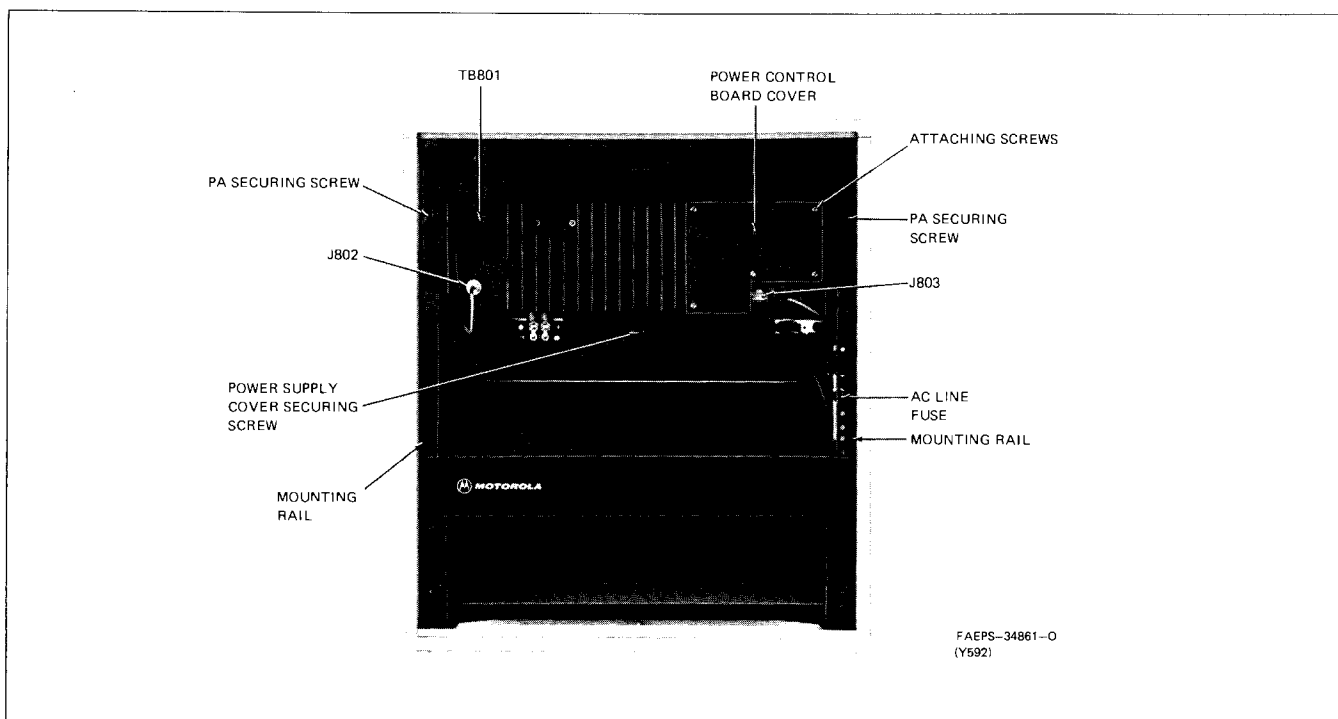

Figure 1. PA and Power Supply Detail of Intermittent Duty Station
5.1.2 The ac line fuse is located on the front side of the junction box at the right-hand side of the cabinet (refer to Figures 1 and 3). To replace the fuse, disconnect the
5.2.1.1 To gain access to the power control board for servicing and metering, remove the 5 screws holding the cover over the power control board area of the PA casting (refer to Figure 1).
(Refer to Figures 1 and 3.)
5.7.2 To gain access to the power supply chassis, remove the power supply cover plate located under the PA chassis. It is retained by a single screw in the upper center of the cover (refer to Figures 1 and 3). For continuous duty stations, remove the top power supply cover plate located directly behind the PA chassis. It is re-